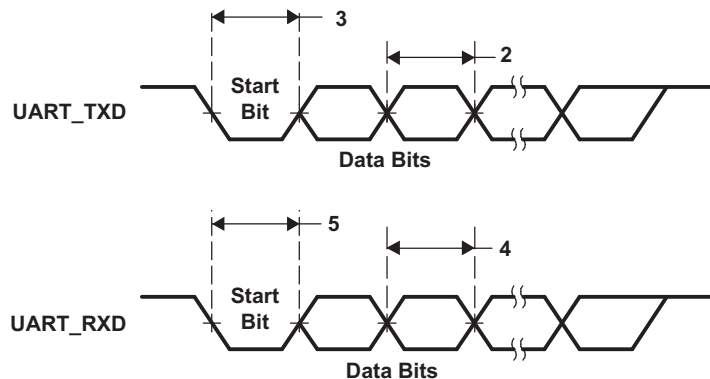

Figure 5-41. UART Transmit and Receive Timing
Table 5-35. Timing Requirements for UART Receive^{(1) (2)} (see Figure 5-41)
- (1) U = UART baud time = 1/programmed baud rate.
- (2) Based on a maximum CPU frequency of 50 MHz.
Table 5-36. Switching Characteristics Over Recommended Operating Conditions for UART Transmit^{(1) (2)} (see Figure 5-41)